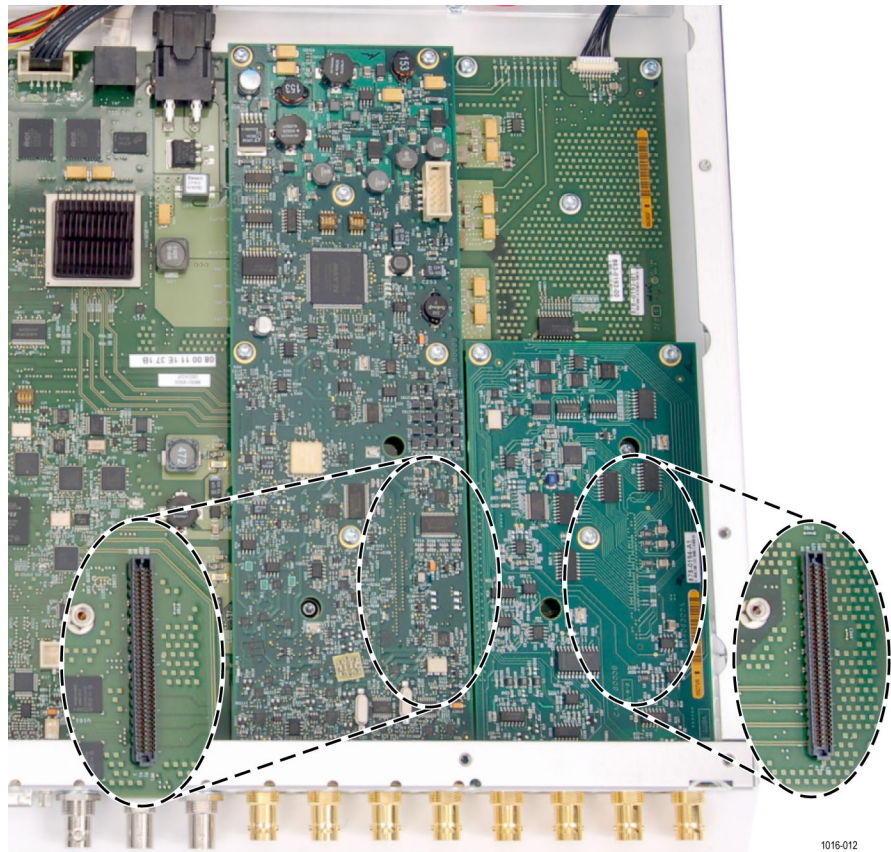

Figure 8: SDI board connector location
- b.** Make sure the connector on the bottom of the video board and main board line up. Pressing only over the location of the connector, gently press the video board down until the connectors engage. (See Figure 8.) The video board should sit firmly on all six posts.
- b. Make sure the connector on the bottom of the SDI board and main board line up. Pressing only over the location of the connector, gently press the SDI board down until the connectors engage. (See Figure 8.) The SDI board should sit firmly on all six posts.